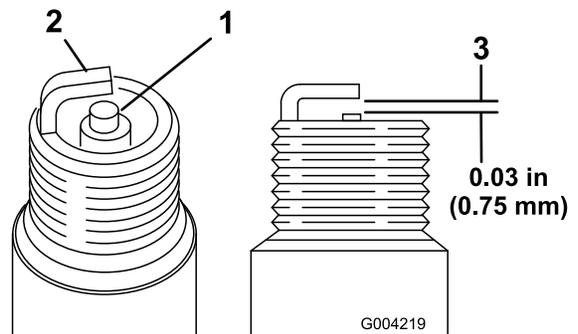

Figure 33
1. Look at the center of both spark plugs (Figure 33). If you see light brown or gray on the insulator, the engine is operating properly. A black coating on the insulator usually means the air cleaner is dirty.
2. Check the gap between the center and side electrodes (Figure 33).
3. Bend the side electrode (Figure 33) if the gap is not correct.